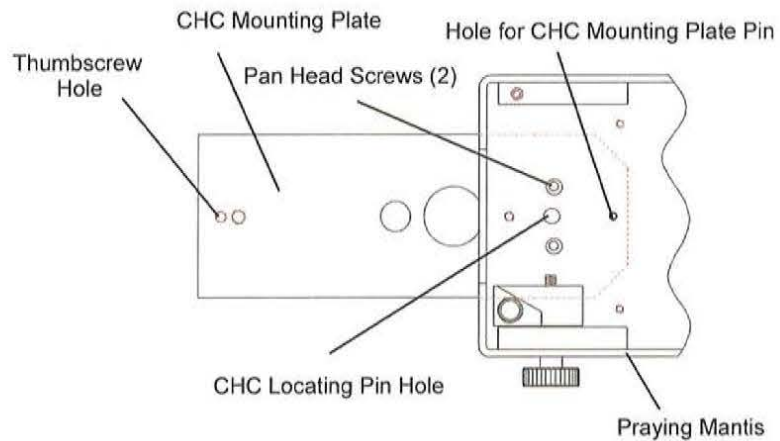

Figure 20 • Installing the CHC Mounting Plate (Top View)
- Slide the CHC mounting plate (Figure 20) under the Praying Mantis™ body locating the CHC mounting plate pin in the hole in the bottom of the Praying Mantis™.